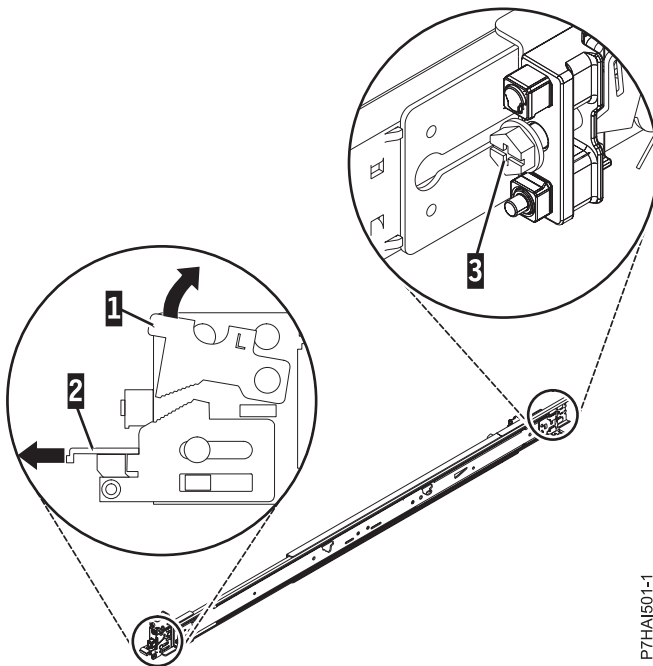

Figure 4. Slide rail and movable tab
1. Each slide rail is marked with either an R (right) or an L (left). Select the left slide rails and push up on the front movable tab **(1)**. Then, pull out the front latch **(2)** to slide out the front side rail. If a thumbscrew is installed in the slide rail **(3)**, remove it as shown in Figure 4.